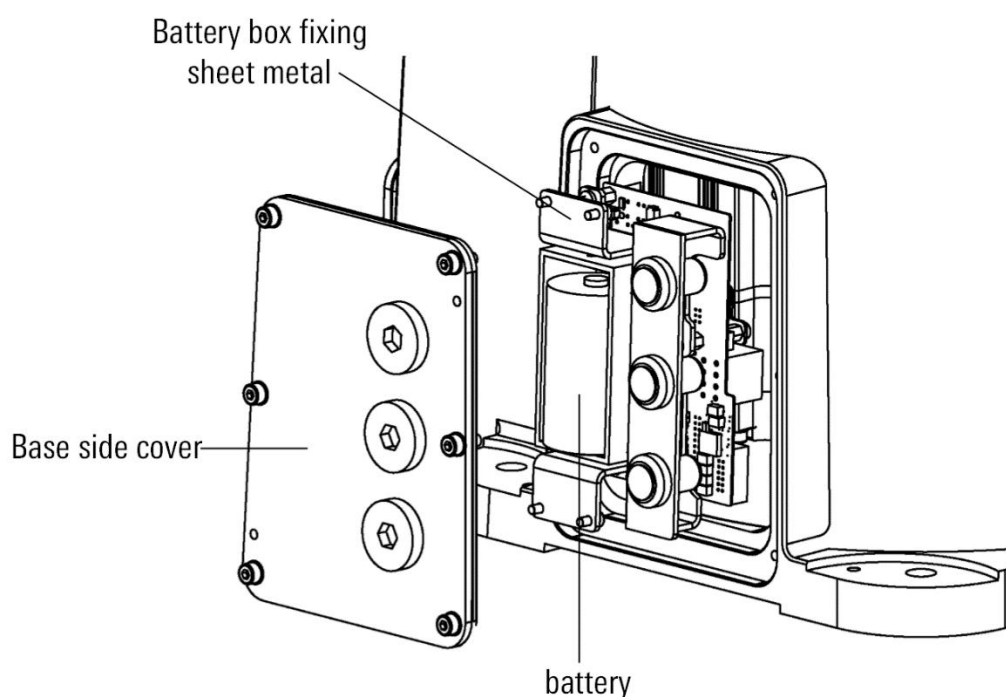

Figure 9-4 Schematic diagram of battery replacement
- Step4. Remove the battery box fixing sheet metal from the right cover, you can see the battery, as shown in Figure 9-4.